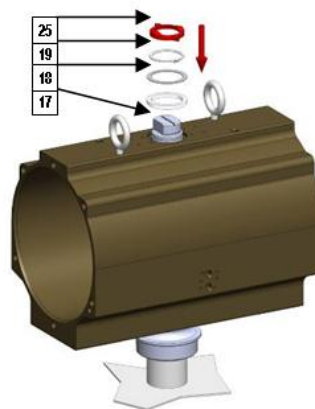

Fig.21
4. Fit on the pinion ( 2 ) the spacer ( 17 ), the washer ( 18 ), the snap ring ( 19 ) and the position indicator ( 26 ), see Fig. 21 ;